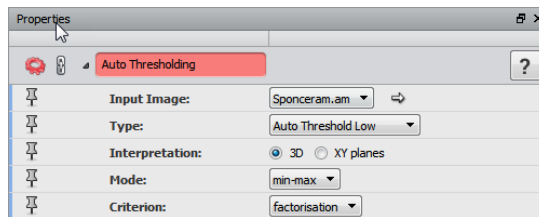

Figure 18.5: Auto Thresholding Module Configuration
2. Separate the void of the material using an *Auto Thresholding* module. Set the *Type* port to *Auto Threshold Low*. It will create two outputs `Sponceram.info` and `Sponceram.labels` (see Figure 18.5).